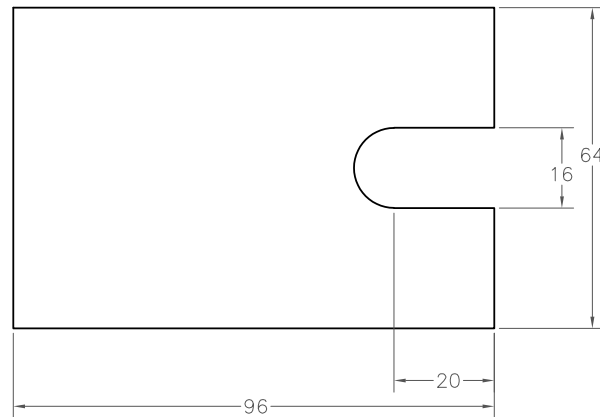

Figure 3-118 Base for the solid model
4. Switch on the ortho mode. Using lines and arc, create the base of the model with the dimensions shown in Figure 3-118.